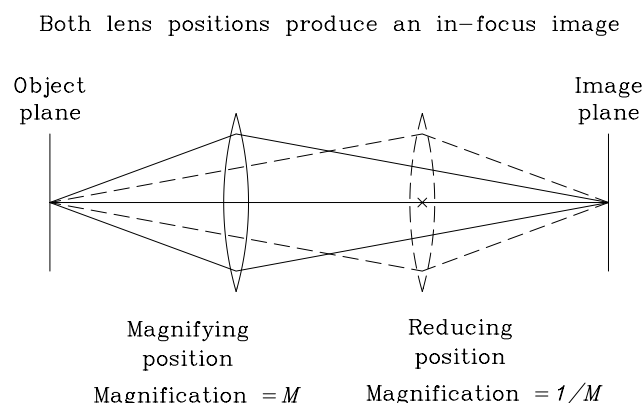

Figure 3: Method for determining  $d$ .
- (8) This can be measured using a trick with the aid of the lens. Note that, when using a lens to form an image of an object on a screen, if the object and screen are far enough apart there are two positions of the lens which will give an in-focus image as shown in Figure 3.